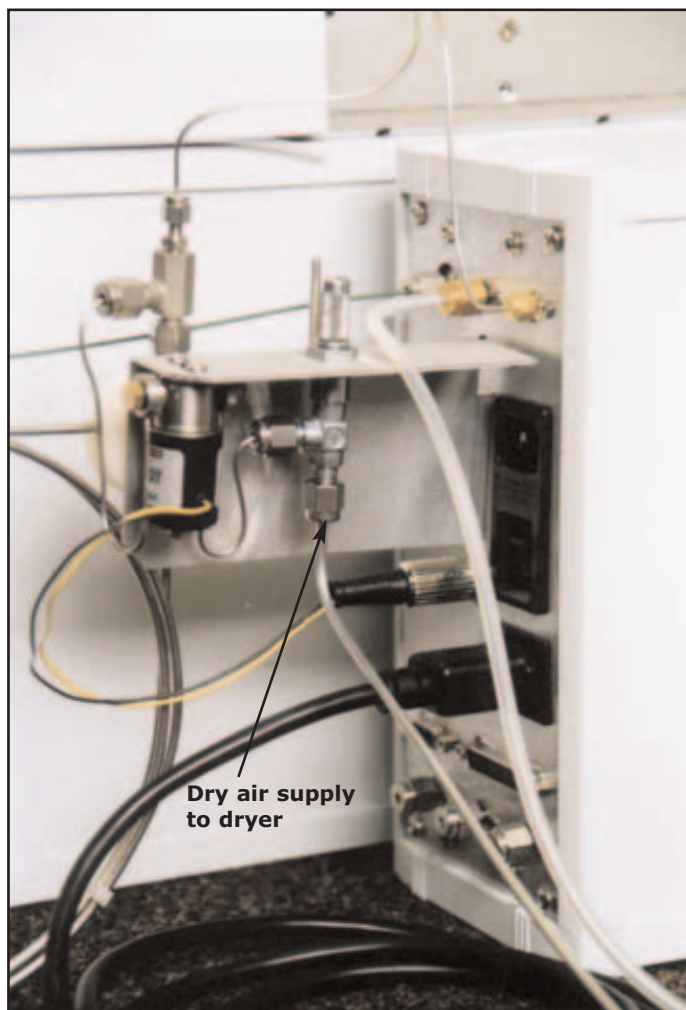

Figure 8. Mounting bracket attached to the back panel of the Air Server (opposite view)
- The dry gas supply should be connected in to the dryer as shown in figure 8 using the 1/8" copper tubing provided.